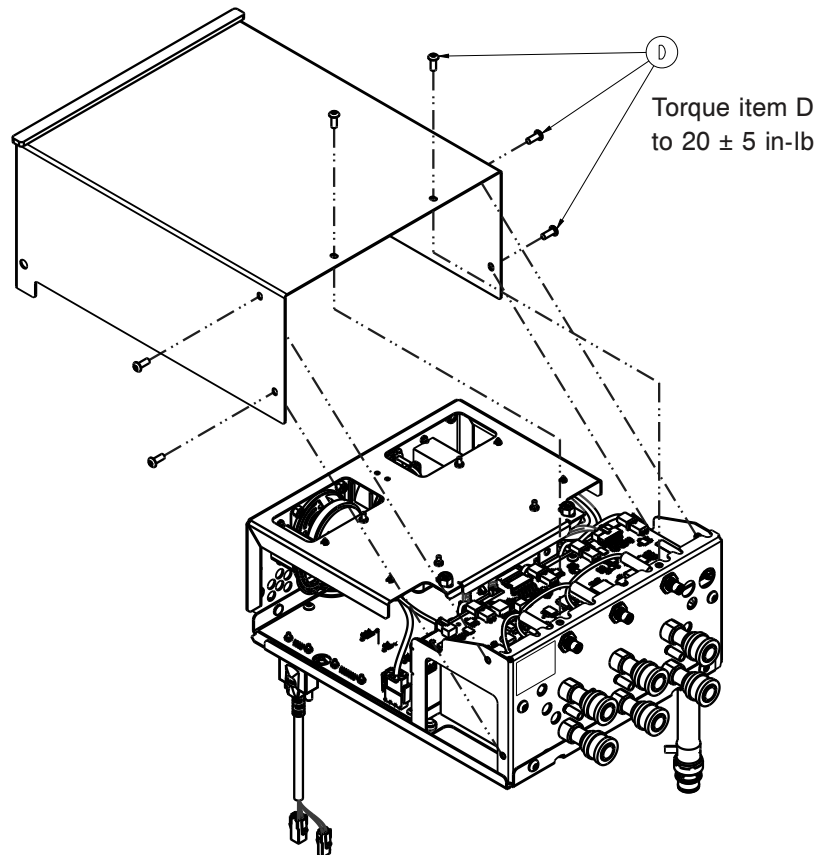

Figure 37 – Control box cover
15. Using a T25 Torx driver, remove the six screws (D) from the control box cover (Figure 37).